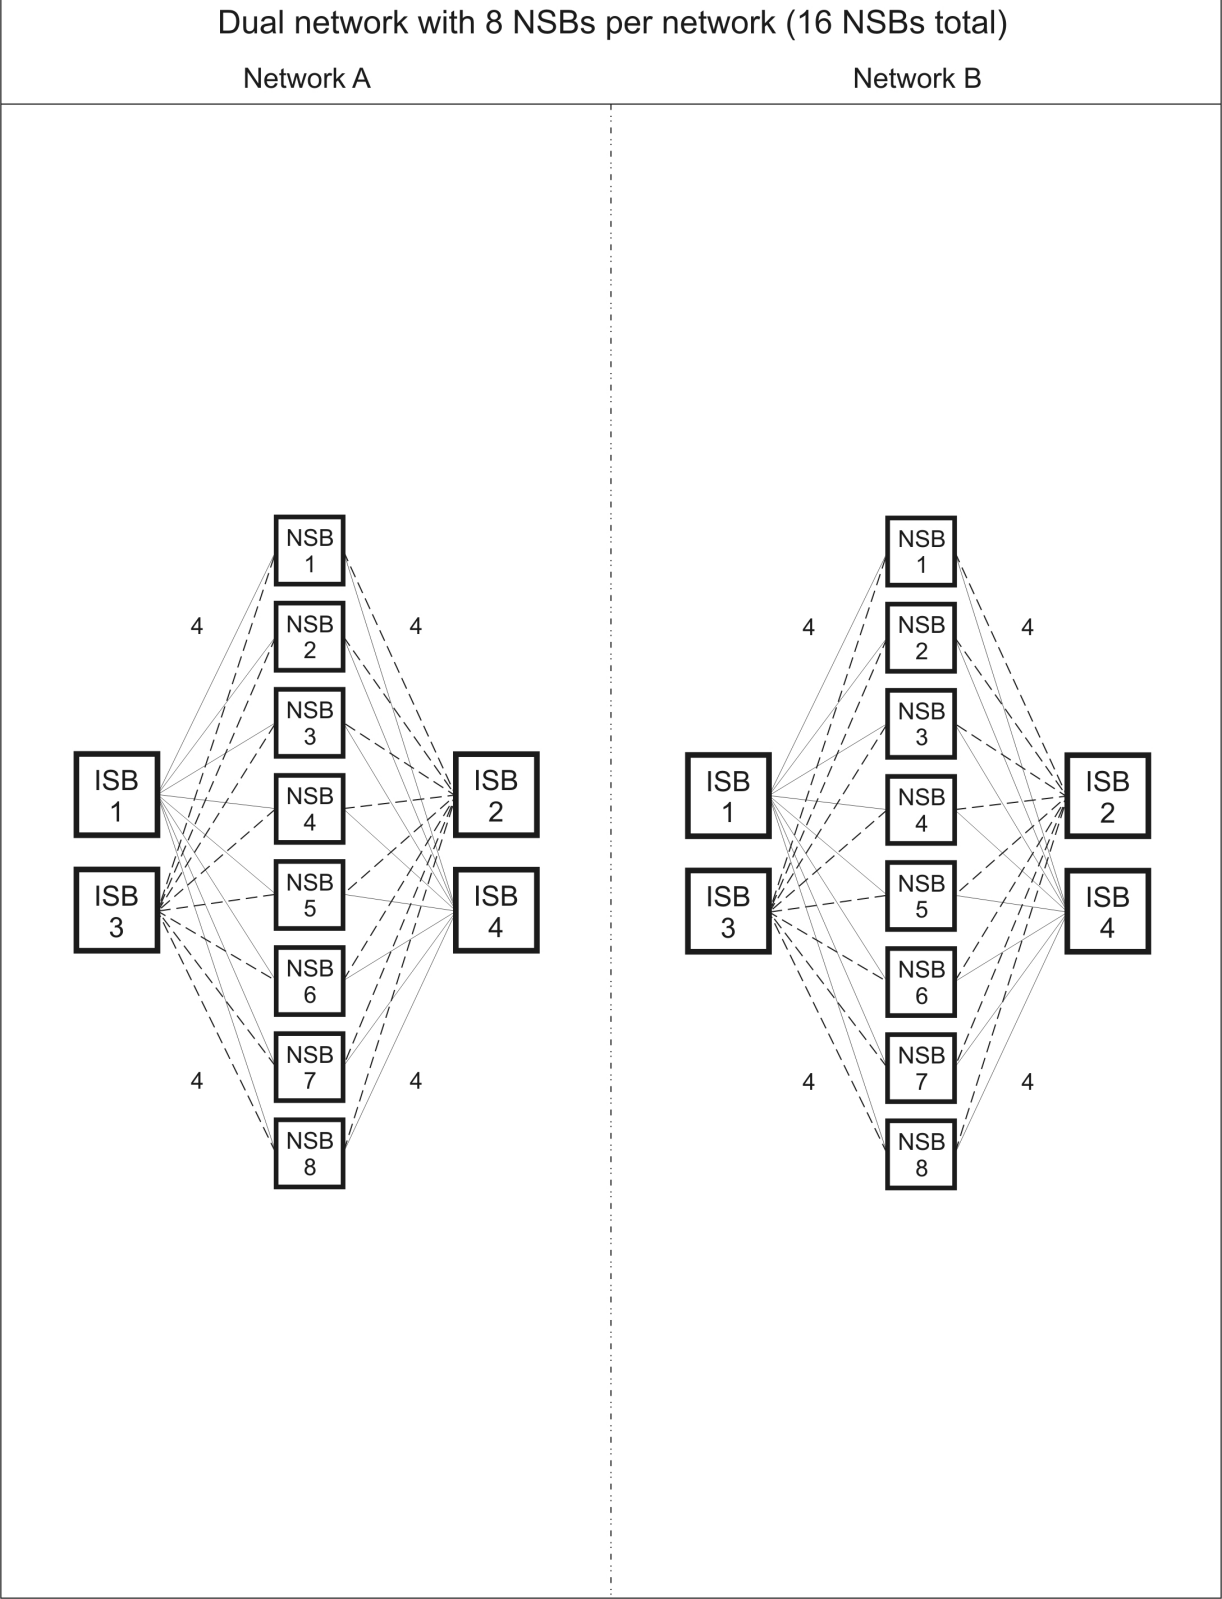

Figure 11. Switch cable paths for dual network system with eight NSBs and four ISBs per network
- Figure 11 on page 39 for dual network systems with eight NSBs per network